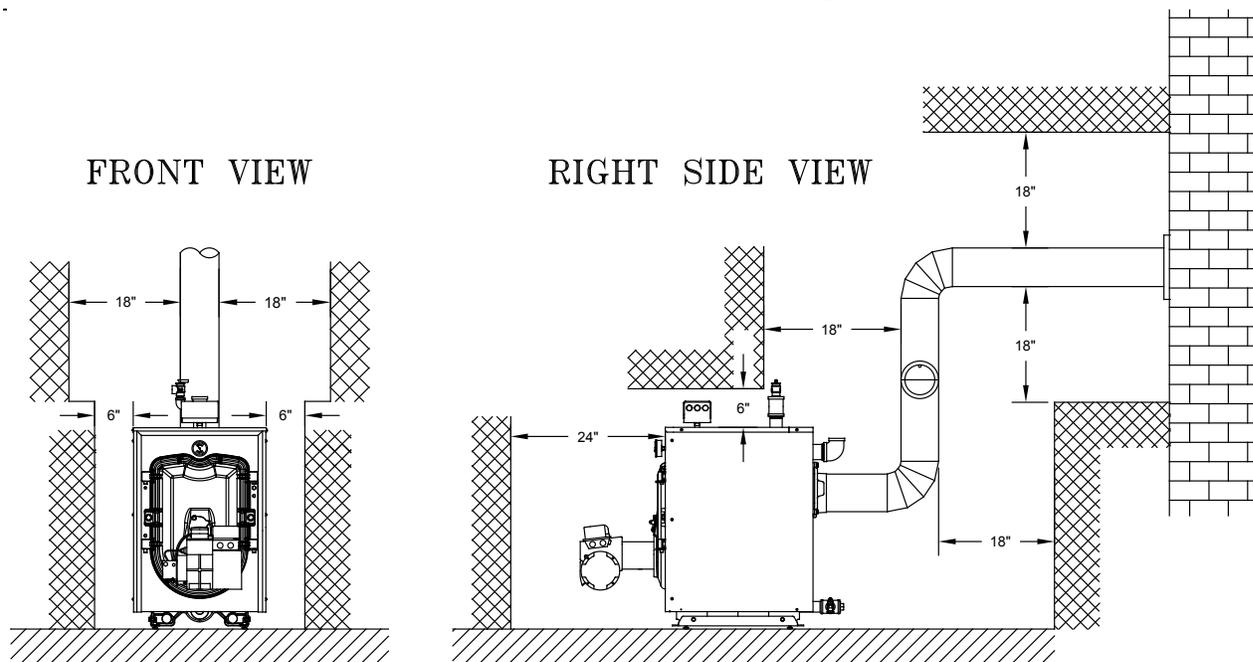

Figure 2A: Chimney Vent - Minimum Installation Clearances To Combustible Materials (Inches)
- 12" minimum for rear smokebox cleaning (Note: This dimension will also be controlled by horizontal to vertical to horizontal smokepipe arrangement - **Chimney Vent** (see Figures 2A and 13).
5. For minimum clearances to combustible materials. See Figures 2A and 2B.